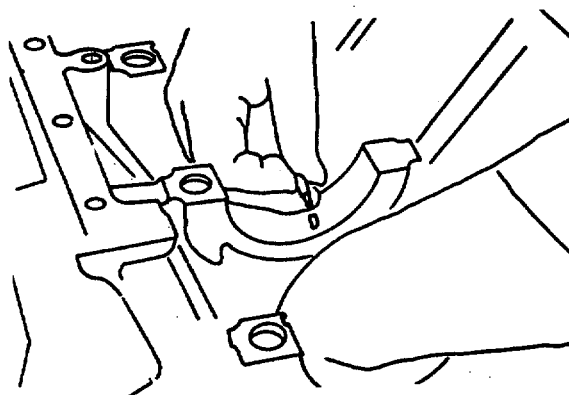

FIGURE 4-70. Installing Piston Cooling Nozzles.
- b. Install the piston cooling nozzles even with or below the bearing saddle surface as shown in FIGURE 4-70.